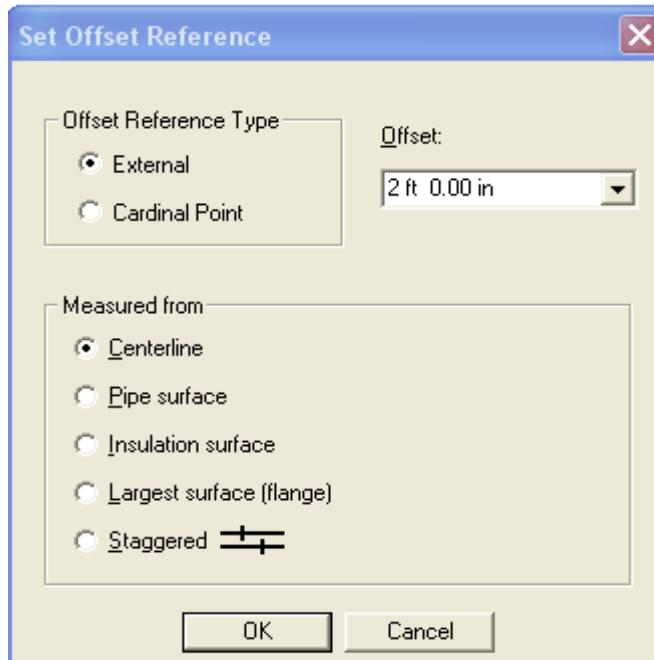

Figure 3. 13: Set Offset Reference Dialog Box
15. Move the cursor over the **Column** (*Column shown below in Figure 3. 14*) until the offset glyph appears, as shown in Figure 3. 14 and move slowly away from **Column** until perpendicular **projection line** is displayed .